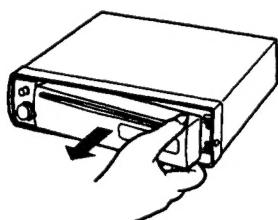

Fig. 5
2. To remove the front panel, pull its right-hand side toward you. (Fig. 5)